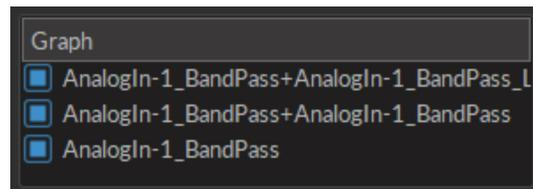

Figure 3.31: Show/hide Graphs Window
- The **Toggle graphs** button opens the **Show/hide graphs** window (Fig. 3.31). Any checked data sets will be displayed in the **Graph box**.